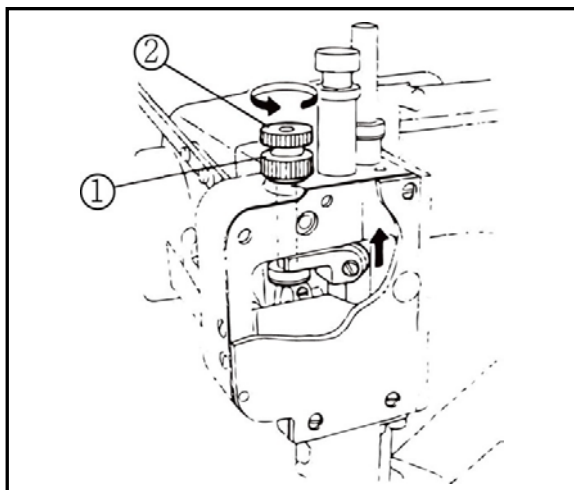

Fig. 26
- (1) Position the needle at the lowest point.
- (2) Loosen the lock nut ① and turn the adjusting nut ② counterclockwise to raise the presser foot.
- (3) Adjust the clearance between the bottom ④ of the presser foot and the presser foot spring plate ③ to 0.3-0.5 mm.
- (4) Tighten the lock nut ① securely. (Fig. 26 & 27)